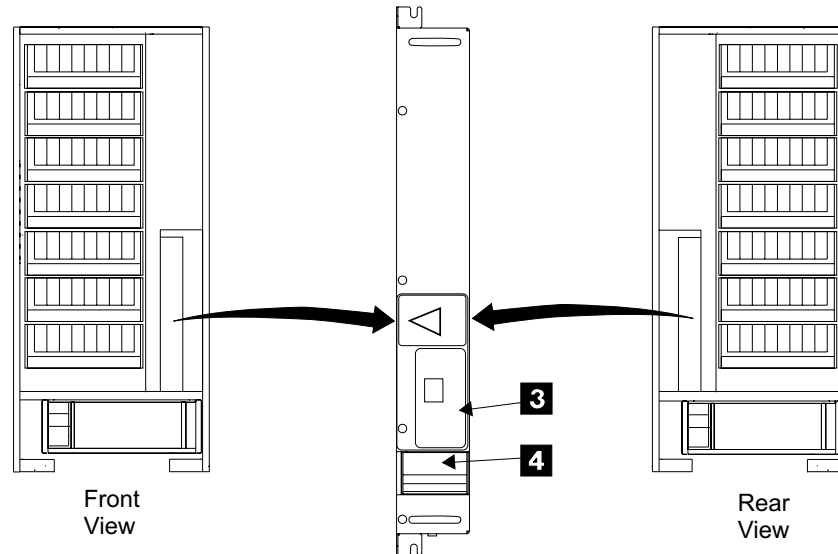

Figure 61. 350 V Battery Circuit Breaker Location (t008978m)
- b. If a 350V battery is present, set the 350 V battery circuit breaker (CB) **4**, in Figure 61 on page 79, to On (|, up).